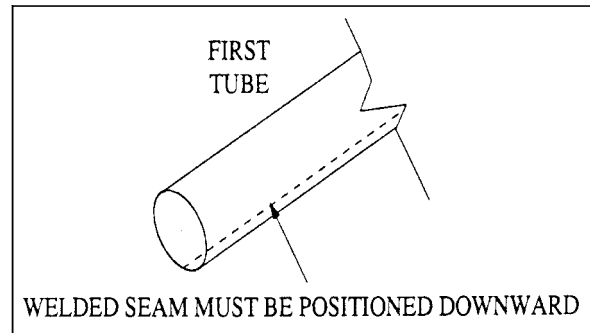

Fig. 2-7
**IMPORTANT:** Mount all tubes with welded seam facing downward (See fig. 2-7). Be sure to have swaged ends pointed towards the exhaust end of the heater.